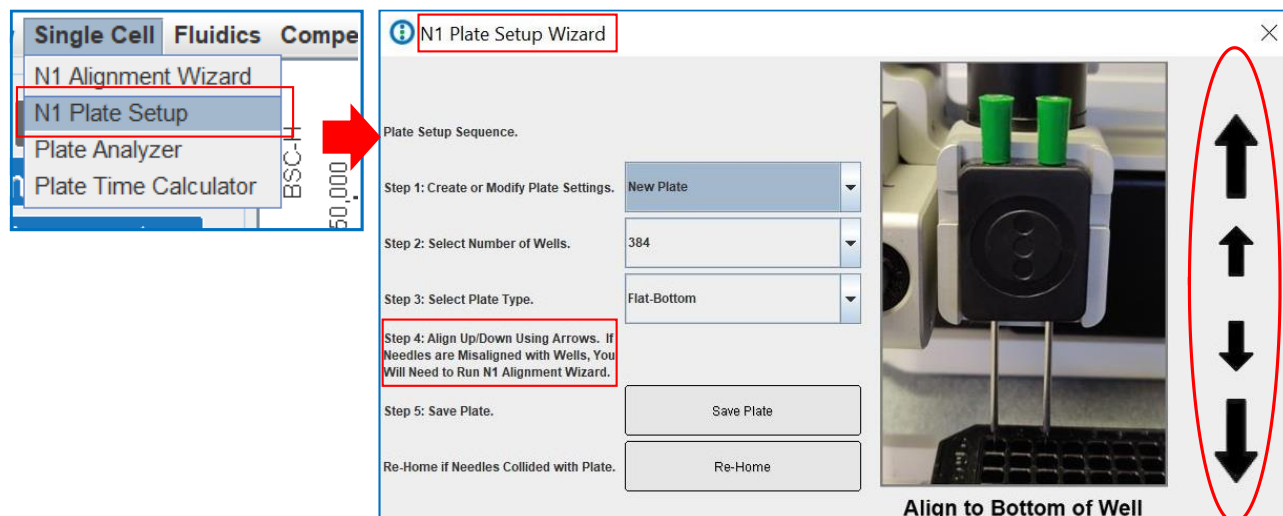

Figure 67. The N1 Plate Set Up Wizard
1. Select “N1 Plate Setup” from the Single Cell main menu tab (Fig. 67).
5. Click “New Plate” from the dropdown menu (Fig. 67).